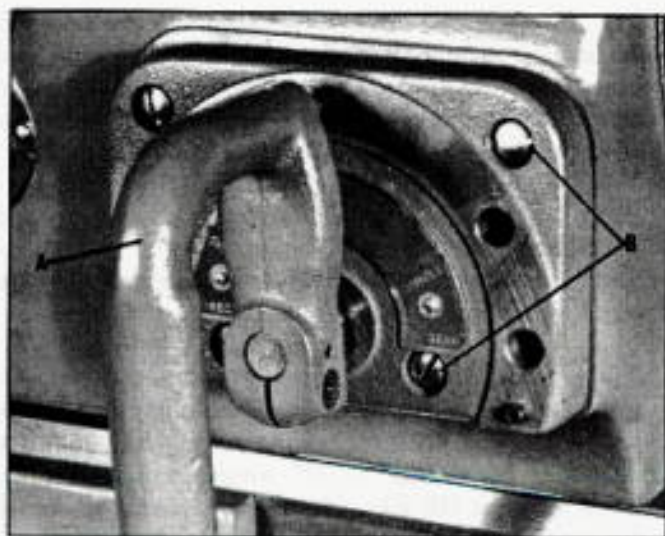

Fig. 18.
1. Place lever (A) Fig. 18, in a vertical position as shown.
2. Remove two screws (B) Fig. 18.